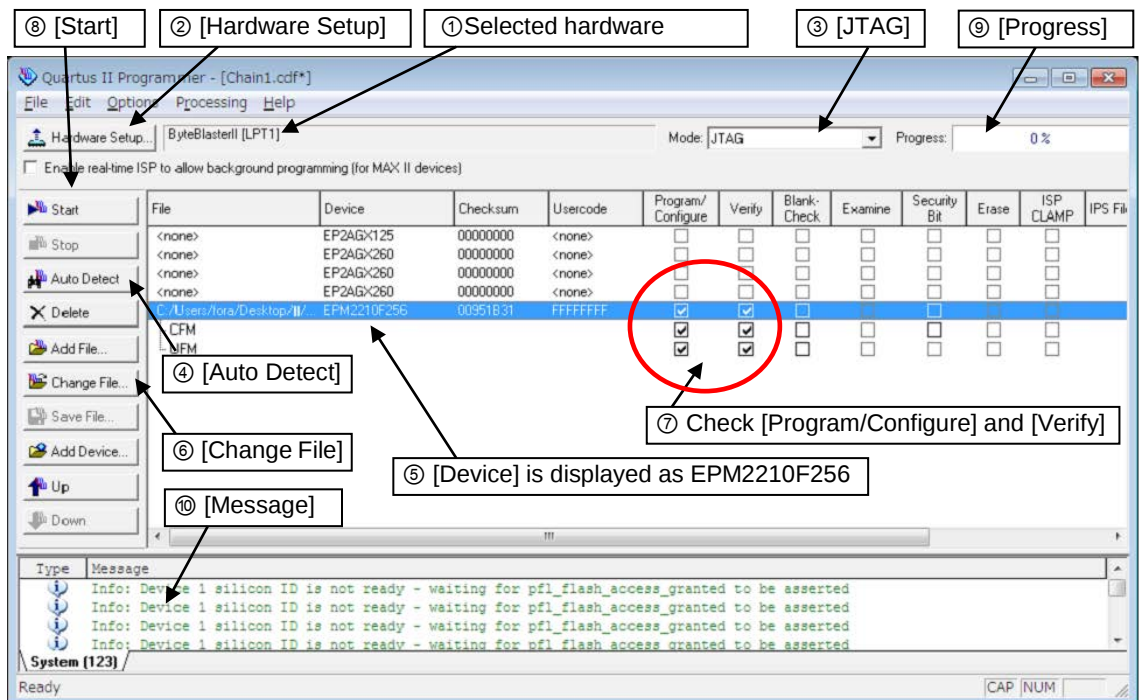

Fig. 16 CPLD Update Screen (FA-1010)
5. Verify that **ByteBlasterII** (or **USB Blaster**) is selected (Fig. 16 ①)
6. If **ByteBlaster II** that is connected to PC is not selected, or "**No Hardware**" is displayed, click **[Hardware Setup]**(Fig. 16 ②) and select the connected **ByteBlasterII** (or **USB Blaster**).
7. Select **[JTAG]** under **[Mode]** (Fig. 16 ③).
9. Click **[Auto Detect]** (Fig. 16 ④).
10. If connected devices are displayed on the screen, select "**EPM2210F256**" displayed under **[Device]** (Fig. 16 ⑤), then click **[Change File]** and select the latest pof file (Fig. 16 ⑥).
11. Check **[Program/Configure]** and **[Verify]** (Fig. 16 ⑦).
12. Click **[Start]** to start updating (Fig. 16 ⑧)
13. If **[Progress]** indicates 100% (Fig. 16 ⑨) and no error sign (in red) appears on the status bar at the bottom of the window (Fig. 16 ⑩), the update is complete.